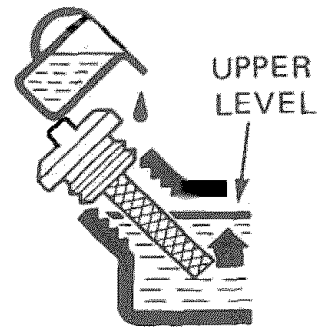

Figure 17- Adding oil
3. Using a funnel, add high detergent motor oil to the crankcase. We recommend SAE 10W/30 motor oil for general use. When full, the oil level should come close to the top of the oil fill opening (see figure 17).